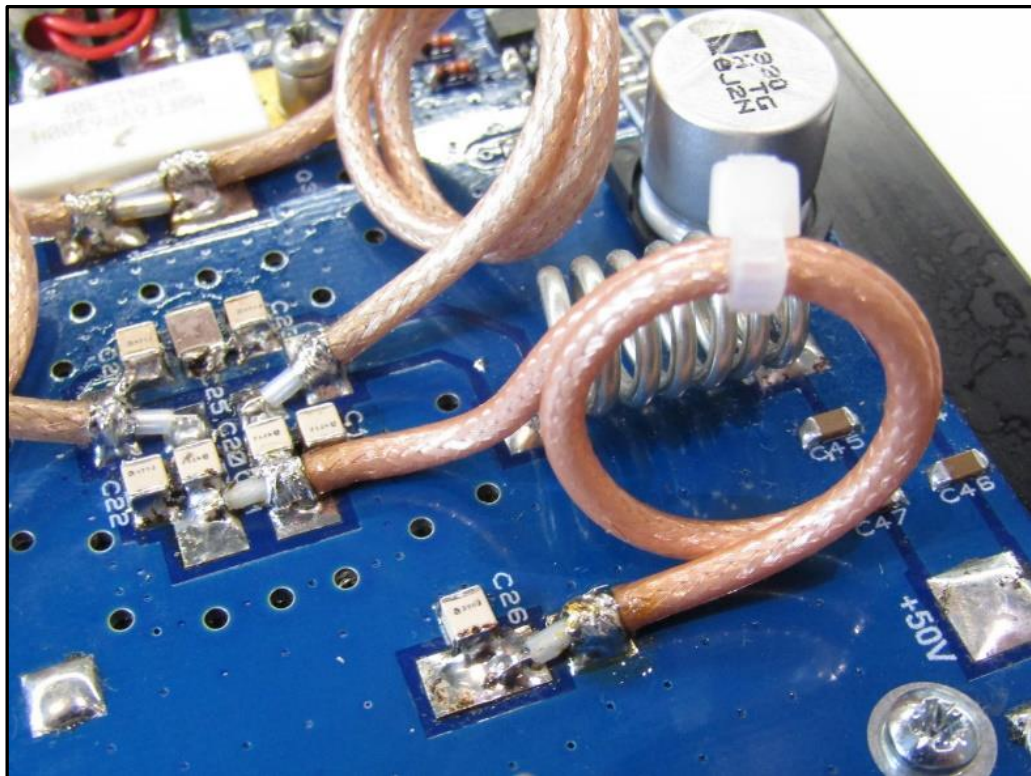

Figure 11: Z4 position.
14. Identify the two remaining 150mm sections of RG316 50Ω coaxial cable. Strip 6mm of the insulation from each end and prepare one piece of coax for mounting to the PCB (fold back and solder earth braid and strip the centre conductor). Solder to the PCB to form the output balun Z4 as in figure 11. One end of the coax is connected to the right of C20 & C21, the other to ground & C26.